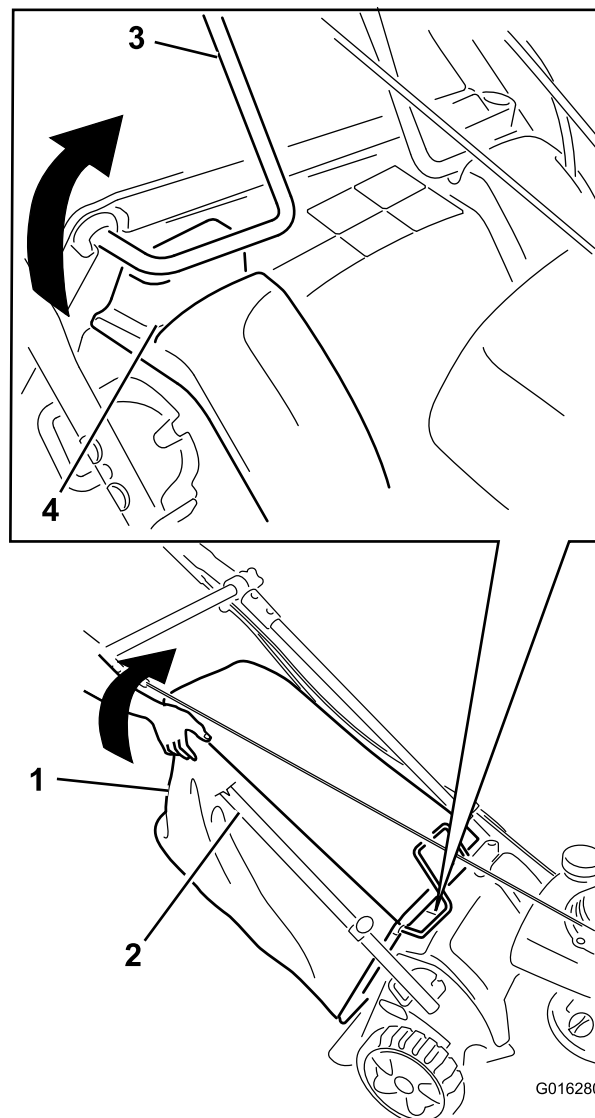

Figure 56
5. While the engine is running, lift up the upper right rear corner of the grass bag until the wire-bag frame at the upper right front of the grass bag is completely out of the right-hand slot (**Figure 56**). **The engine should stop.**